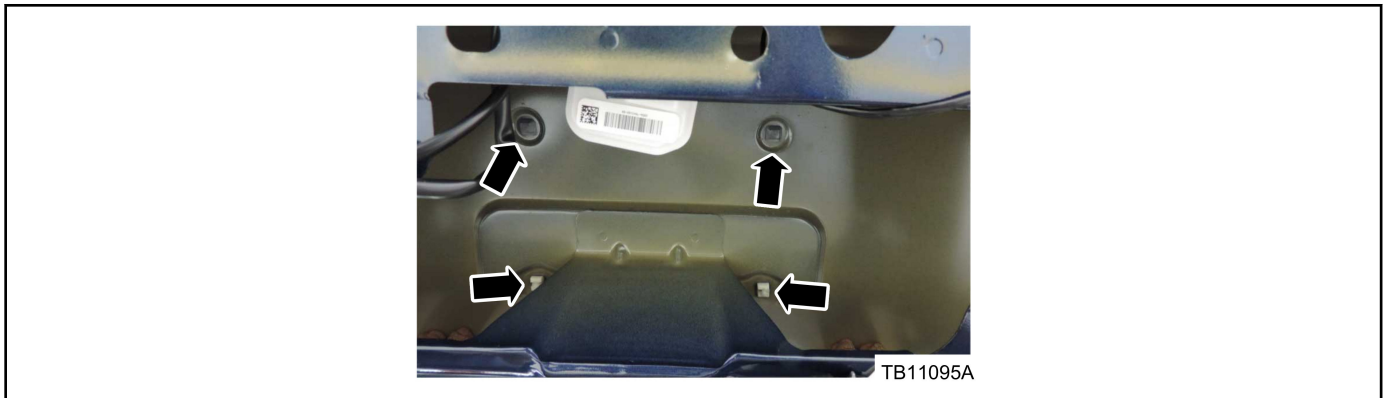

Figure 27 - Article 17-0044
- d. Rear license plate attachments. (Figure 27)